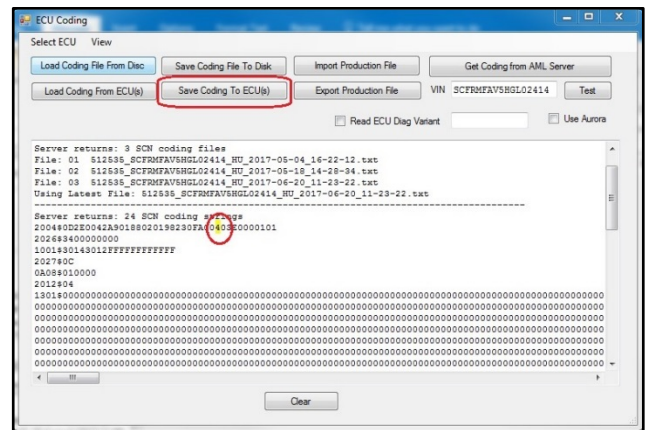

Figure 5
14. Click "Save Coding to ECU(s)" to save the new SCN coding to the HU module (refer to Figure 5).
Note: Do a check of the highlighted digit (refer to Figure 5) to make sure that the new code is correct. For the initial code the digit will be "0". For the updated code, the digit will be "4".